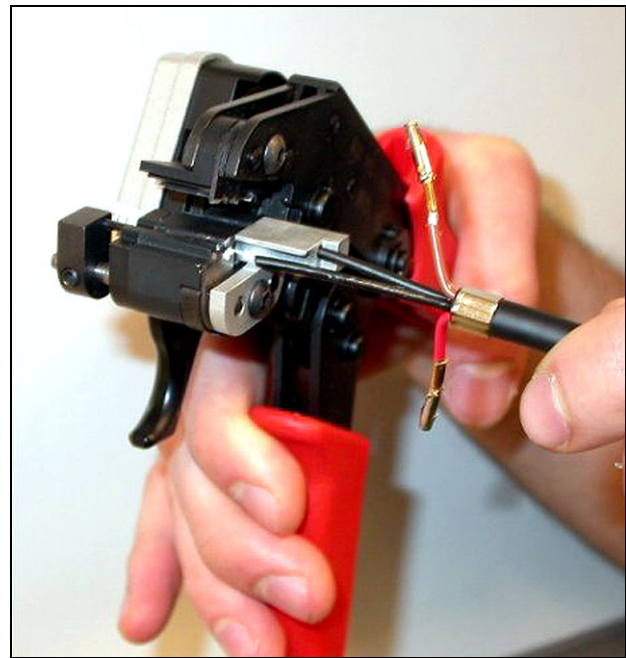
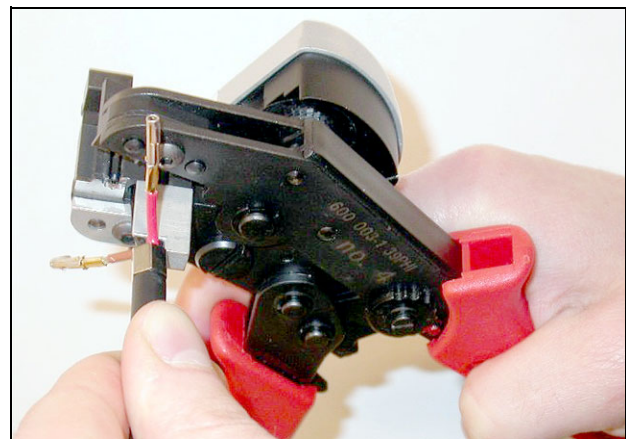

figure 45.16: Cutting a fiber (1)
figure 45.17: Cutting a fiber (2)
- 14 Put the plastic optical fibers into the POF cutter/stripping tool (tool 6). The optical fiber that is to be cut must be put in the small guide hole. The other optical fiber must be put in the large guide hole (refer to figure 45.16). Push the cable until the crimping bush is against the stop (refer to figure 45.17).